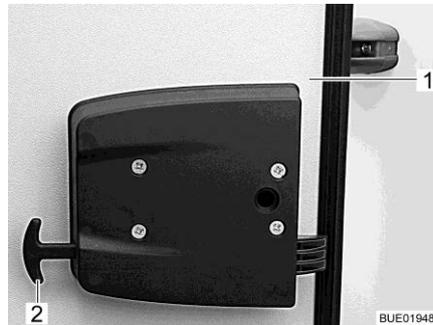

Fig. 73 Garage flap emergency release
- Pull both handles of the emergency release (Fig. 73,2).
- Push the garage flap (Fig. 73,1) outwards.